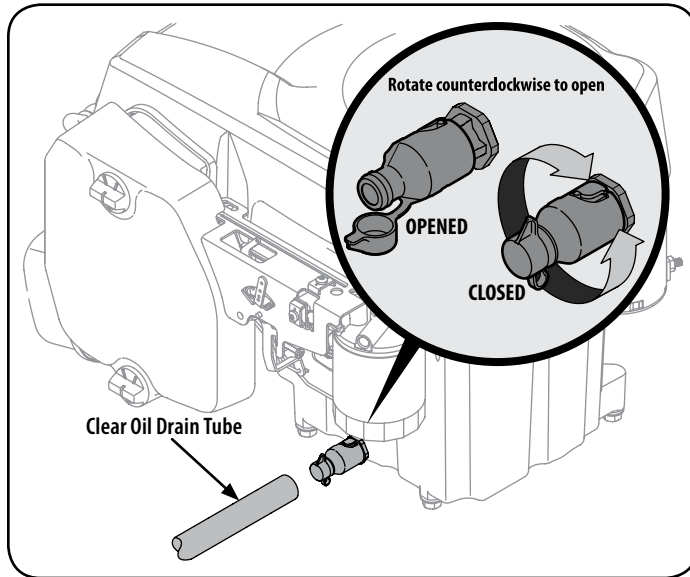
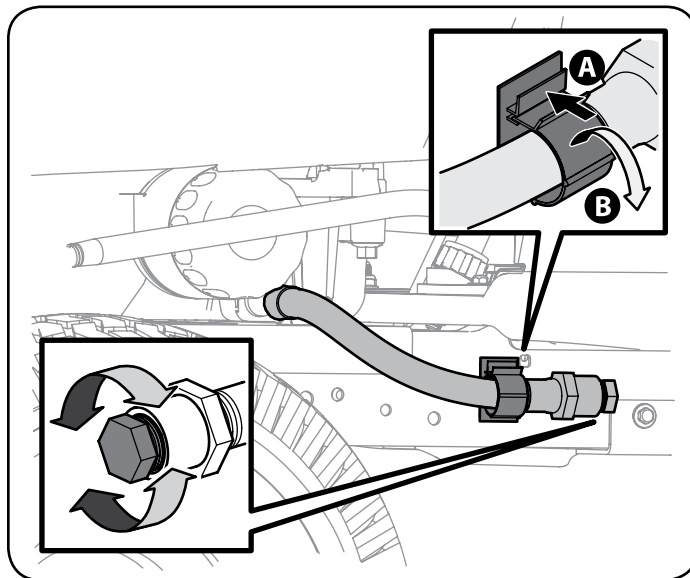

Figure 19
Figure 20
4. Your engine is equipped with either a twist-and-pull oil drain (see Figure 19 and go to Step 5.) or a removable oil drain hose plug (see Figure 20 and go to Step 6.) Follow the applicable instructions for your tractor.
5. Twist-and-pull oil drain (refer to Figure 19):
6. Removable oil drain hose plug (See Figure 20):
- a. Remove the oil drain hose from the clip on the left side of the frame. See Figure 20.
- b. Remove the oil drain hose plug from the end of the hose. See Figure 20. Drain the engine oil into the collection container.